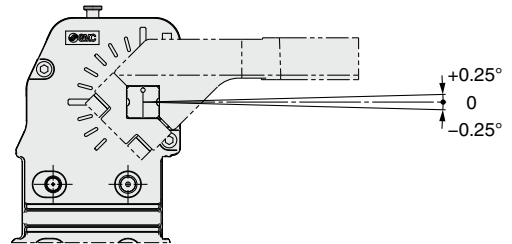

Figure 1
- 2) There is a mechanical difference of  $-0.25^\circ$  to  $+0.25^\circ$  at the clamping end as shown in Figure 1. Be sure to make adjustments externally using a shim. Refer to page 10.